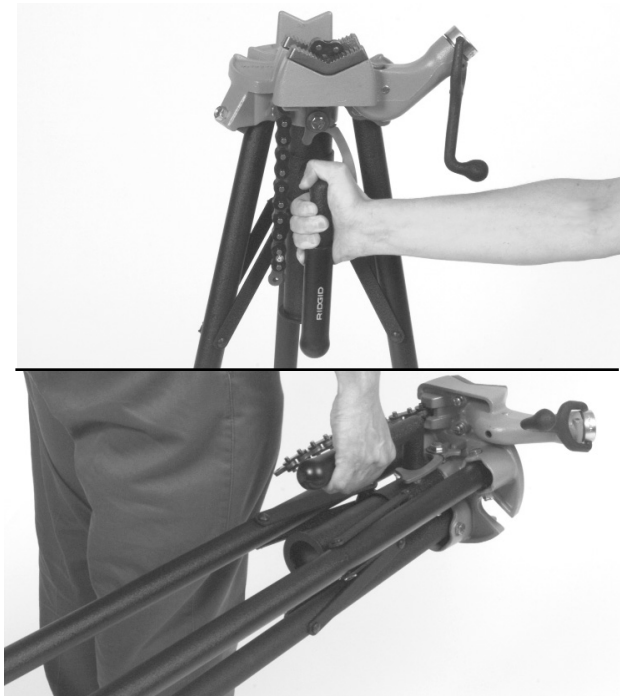

Figure 3 – Transporting Vise
1. With workpiece removed from the vise, lift up on carrying handle (releasing over-center locking mechanism) until spring-loaded, automatic-locking latch engages boss carrying handle (Figure 3).